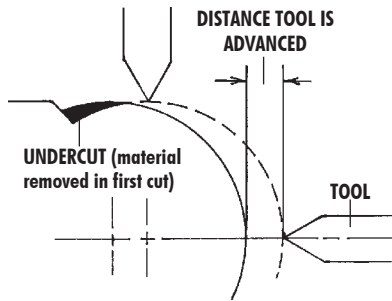

FIGURE 2—The area in black illustrates why you don't want to cut past top dead center until you know you are at final size.
- Remember that the tool will cut the full amount it has been advanced at the center but will not reduce the diameter at the top and bottom of the part. (See Figure 2 above.) If you move the tool past the top dead center before the tool is cutting at its final position you will undercut the opposite side of the ball. This makes it wise to stay back 10° or so from top dead center until the tool has reached its final position. This creates a “damned if you do and damned if you don’t” problem. If you don’t cut over the top you can’t accurately check the diameter of the ball, and if you do you may scrap out your part. The easiest way out of this situation is to set up on a scrap piece and get the tool set. The radius remains set even if the attachment is removed and replaced on the lathe as long as the tool isn’t moved in the radius cutter body.